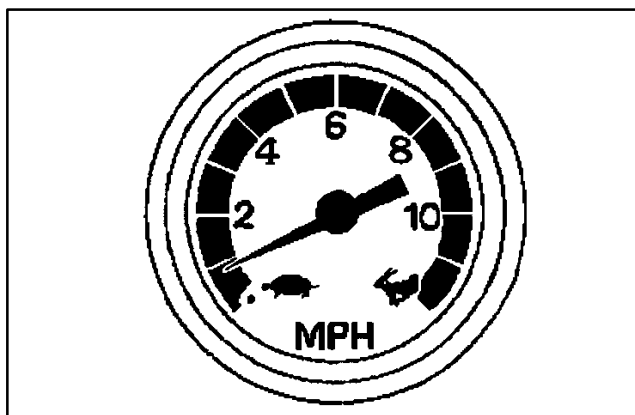

Figure 39
2. Take test point readings (Fig. 39).